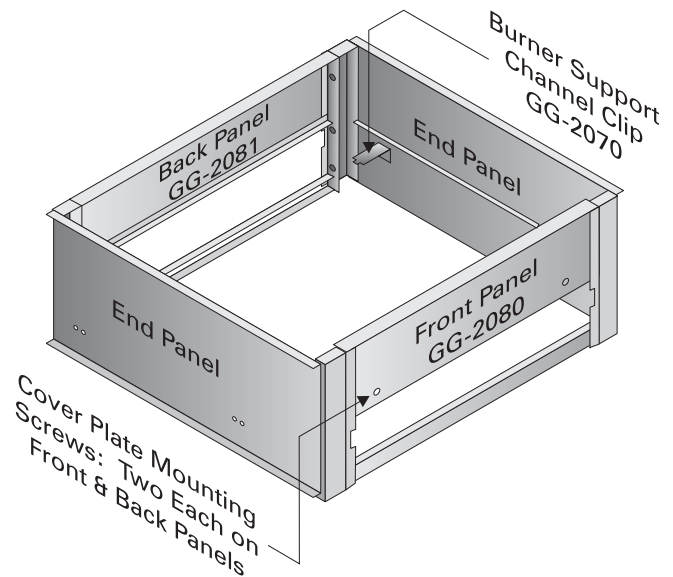

Figure 2.2: Steel Base Assembly
2. Open crate number 2. Remove the End Panels and mount a Support Channel Clip toward the rear on each panel as shown in Figure 2.2 using 1/4"-20 x 1/2" (13 mm) round head machine screws and 1/4" lock washers provided.
3. Attach the Front Panel and Back Panel (Figure 2.2) to the Left Hand End Panel using 5/16"-18 x 1" (25 mm) long cap screws and hex head nuts provided.